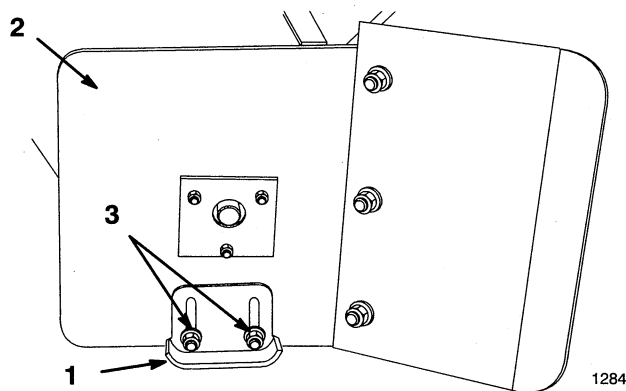

Figure 32
3. Loosen nuts securing skids to the housing until the skids slide up and down easily (Fig. 32).
4. Raise or lower skids equally on both sides, to obtain level scraping action, and tighten nuts (Fig. 32).